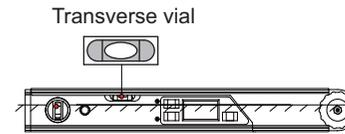

Fig.1
- a. Transverse checking(Fig.1).